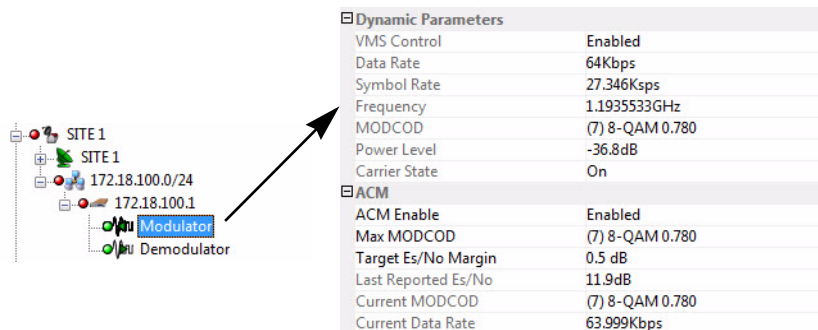

Figure F-10 Modulator Device Parameter View, VMS
14. Verify normal communications to Remote device using the VMS device parameter view, as shown below in figure F- 10.